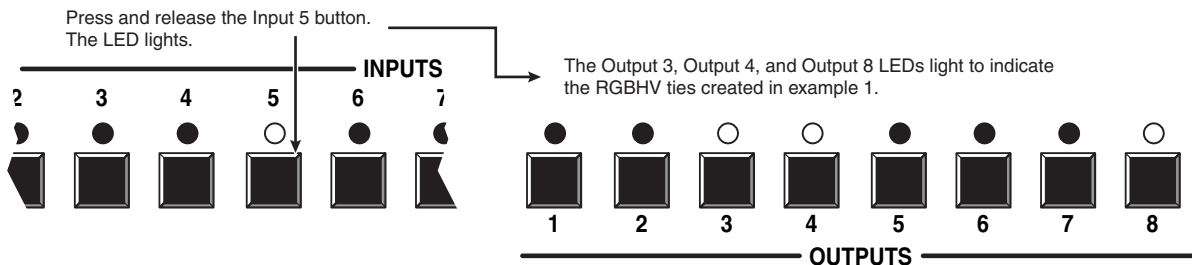

Figure 3-11 — Select an input
3. Press and release the Input 5 button (figure 3-11).